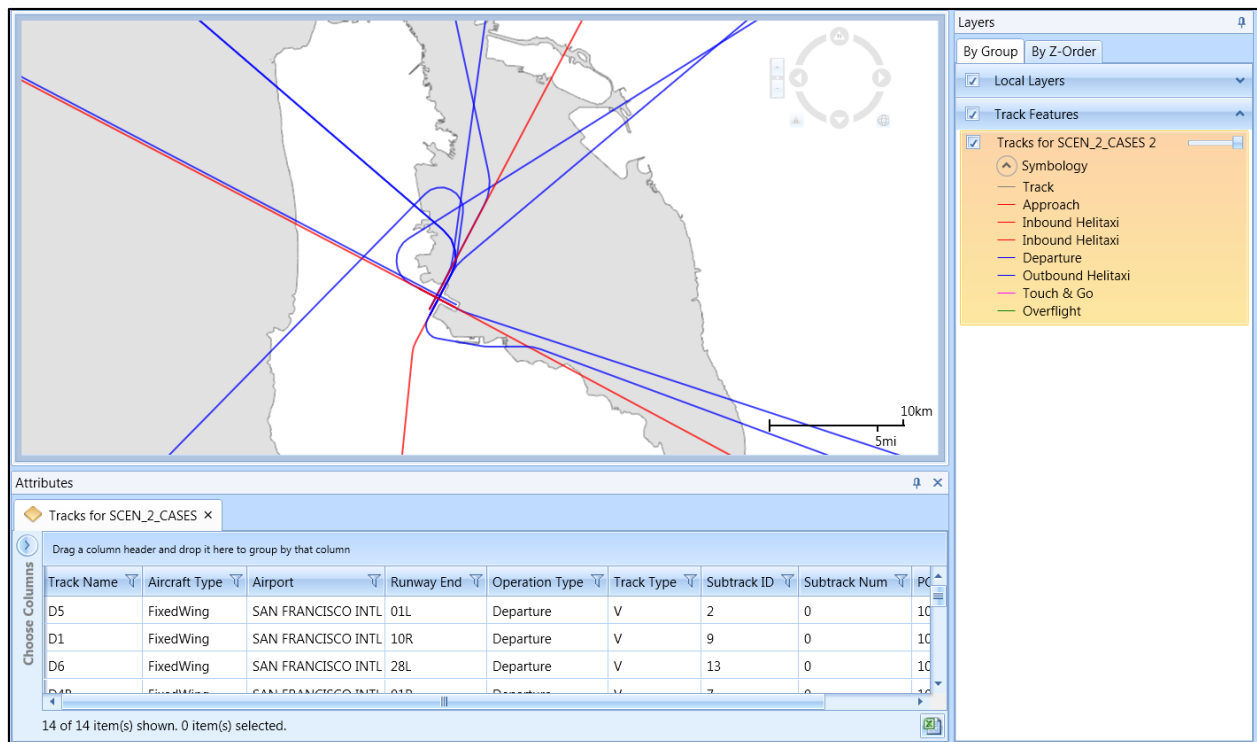

Figure 5-29 Sample Tracks Layer with Attributes
3. The tracks layer is displayed on the map (Figure 5-29) and in the *Layers* manager.
The following attributes are available for tracks layers: track name, aircraft type, airport, runway end, operation type, track type, subtrack ID, subtrack number, and percent dispersion (Figure 5-29). See Appendix B.3 for descriptions of the attributes.